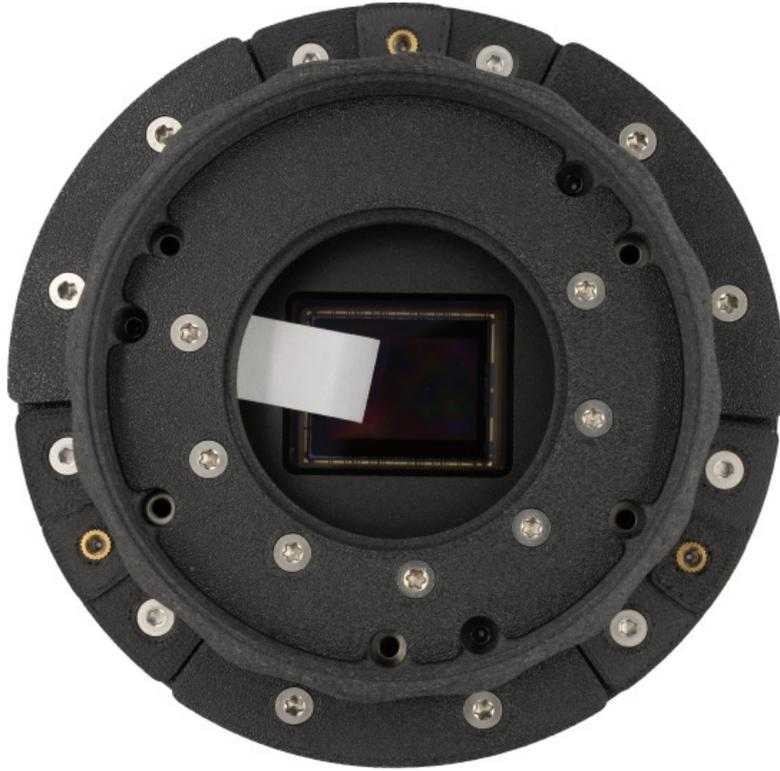

fig. 39
3. Slide the cut strip of paper into the gap between the camera and the filter drawer. Do it in such a way that the strip slides under one of the screw used for tilt adjustment (fig. 39).